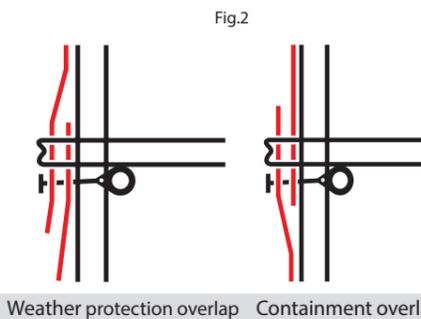

Fig.2
6. For horizontal overlapped installations, the orientation of the overlap is important. For weather protection, the bottom of the upper sheet should be outside the top of the lower sheet in order to provide a tiled effect allowing rainwater to run off. However, the opposite would be more appropriate in demolition applications so that falling small debris and dust is deflected back into the work area. See Fig. 2.